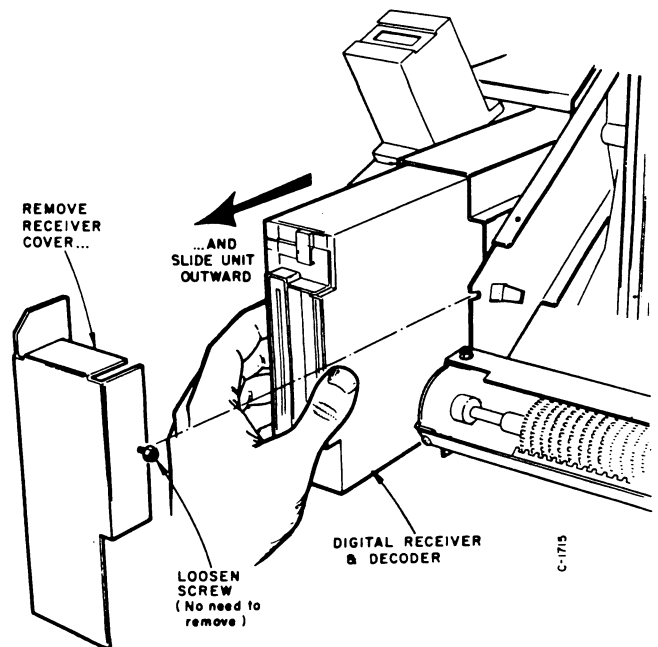

Figure 25. Removal of Digital Receiver & Decoder
4. Remove digital receiver & decoder cover. (See Figure 25).
The Type DRD1 Digital Receiver and Decoder is located on the left side of the Select-O-Matic Mechanism, see Figure 25, and is accessible after removing